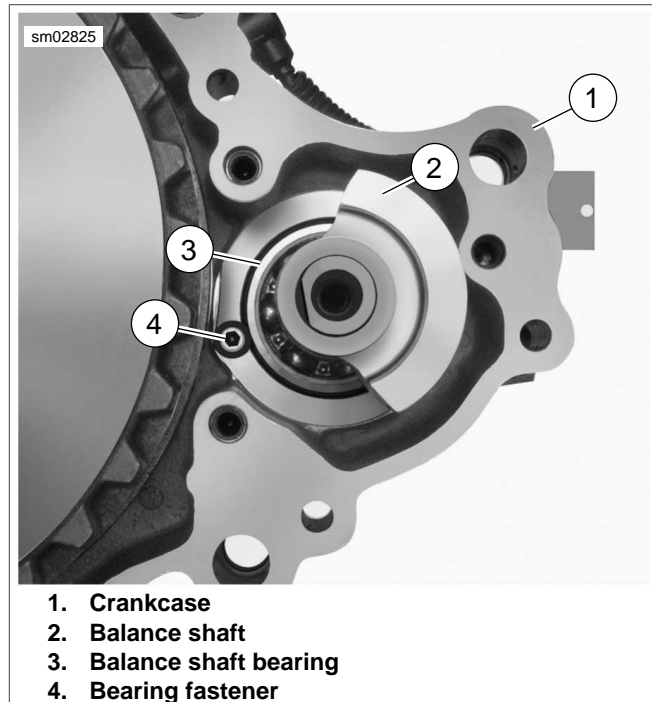

Figure 3-160. Balance Shaft Bearing
1. See Figure 3-160. Remove bearing fastener (4) from crankcase (1).